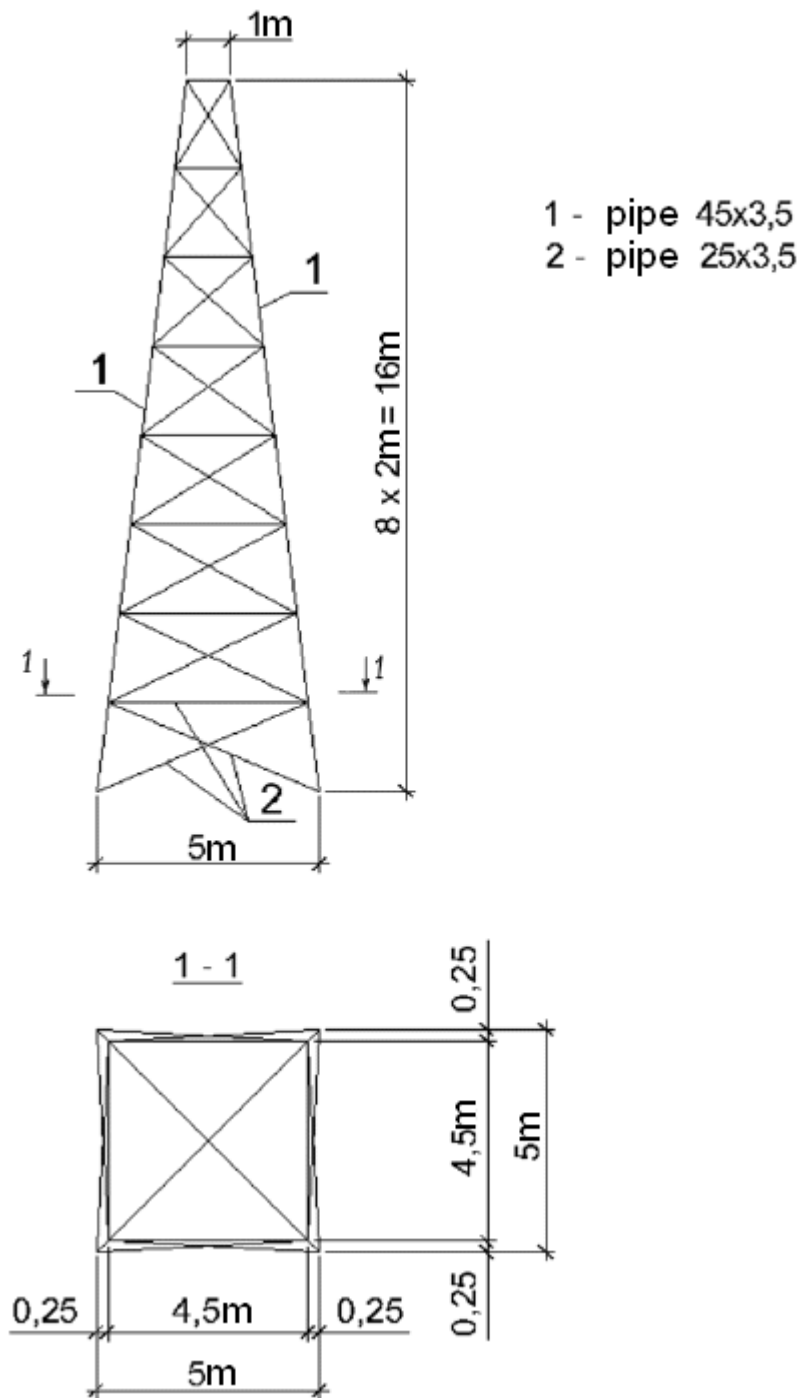

Figure 5.1 Model of tower
Model of the tower is presented in Fig.5.1.
Sections of elements of the tower (see Fig.5.1):
- ⇒ In the **Steel cross-section** dialog box (see Fig.5.10), specify the following parameters for pipe section (for main elements - element 1, see Fig.5.1):
- ⇒ In the **Steel cross-section** dialog box, specify the following parameters for pipe section (for elements of lacing - element 2, see Fig.5.1):